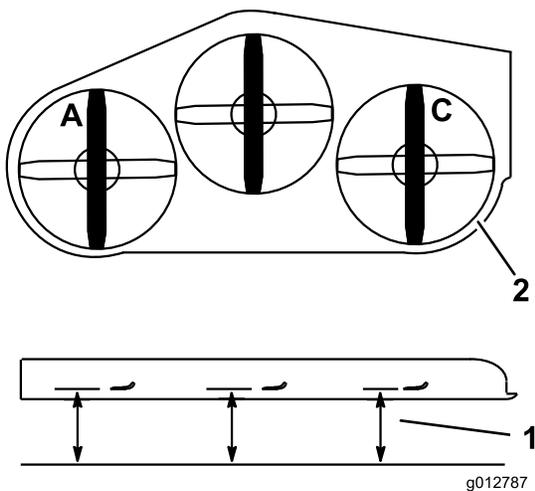

Figure 84
1. Position the left blade front-to-rear (Figure 84).
2. Measure the left blade at the **A** location, from a level surface to the cutting edge of the blade tip and record this measurement (Figure 84).
3. Position the right blade front-to-rear (Figure 84).
4. Measure the right blade at the **C** location, from a level surface to the cutting edge of the blade tip and record this measurement (Figure 84).
2. Position the left blade front-to-rear (Figure 84).
3. Measure the left blade at the **A** location, from a level surface to the cutting edge of the blade tip and record this measurement (Figure 84).
4. Position the right blade front-to-rear (Figure 84).
5. Measure the right blade at the **C** location, from a level surface to the cutting edge of the blade tip and record this measurement (Figure 84).